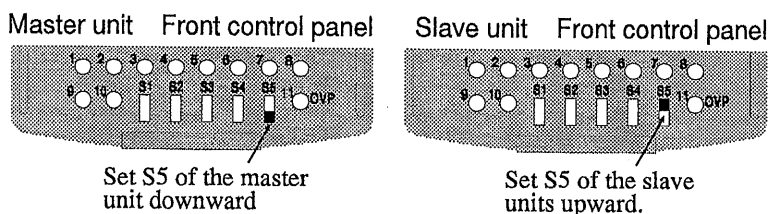

Fig. 3-11 Control switch presetting for master-slave-control parallel operation
- ⑤ Set the control switch S5 of the master unit and slave units to the positions shown in Fig. 3-11.